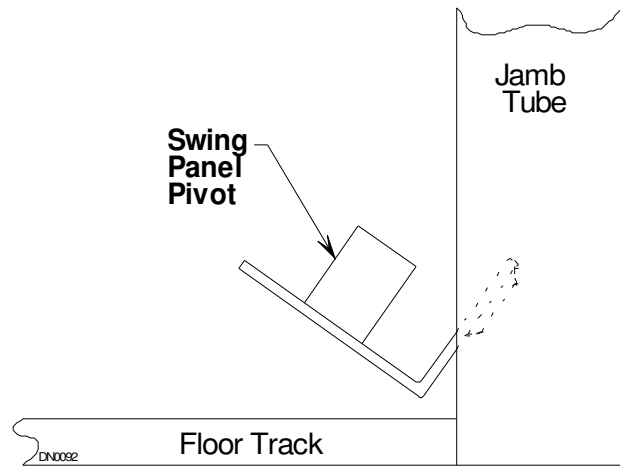

Figure 12
2. Install pivot into jamb by rotating it into cutout in jamb and fastening it with a 1/4-20 x 3/4 inch screw (See Figure 12).